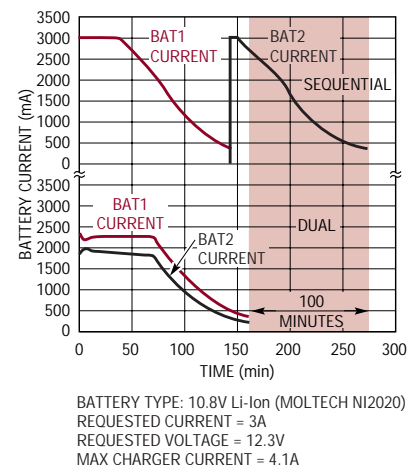

Figure 2. Comparison of battery charge times for a dual (simultaneous) system and for a sequential system
Figure 2 shows how charge times benefit. Batteries that use a Constant Voltage (CV) mode during charge termination take a long time to reach their full capacity relative to batteries that use a Constant Current (CC) mode during charge termination. Specifically, Li-Ion is one of the most popular portable computer battery chemistries in use today. The Li-Ion battery has two phases of charge: a current limited phase where most of the energy is put into the battery, and a CV phase where the current falls off quickly at first but slows down as it asymptotically approaches zero current. The problem is that the battery fills to only about 85% of its capacity in the first half of the total charge cycle time, while taking just as much time for the remaining 15%. From a user perspective, the charge time with two batteries becomes excessive. By charging the batteries in parallel, the charge time is cut almost in half relative to sequentially charging them, for three reasons: